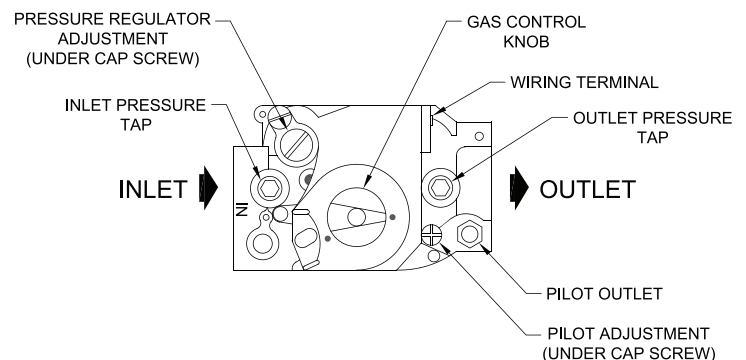

Figure 10.2a: Top View of Gas Valve
- Connect a manometer to the inlet pressure tap on the gas valve (see Figure 10.2a).
5. Connect a manometer to the manifold (outlet) pressure tap on the gas valve (Figure 10.2a).
7. If a manifold pressure adjustment is needed, make the adjustment by turning the regulator screw (see Figure 10.2a) clockwise to raise the pressure and counter-clockwise to reduce the pressure. If a manifold pressure adjustment is made, recheck the inlet pressure after making the adjustment to be certain that it is still within acceptable limits. Replace the cover screw on the regulator.